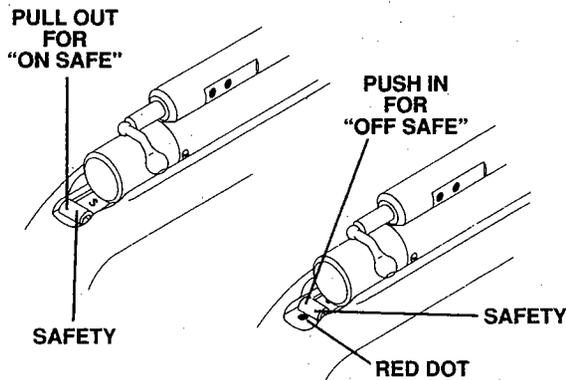

FIG. 2
NOTE: BE SURE THE RIFLE IS "OFF SAFE" BEFORE COCKING (Fig. 2). FAILURE TO FOLLOW THE PROCEDURE LISTED BELOW MAY RESULT IN JAMMING THE FIRING MECHANISM.
- To put the air rifle on safe, pull the safety all the way back with your thumb. The safety is not on unless it is pulled all the way back so the red dot is covered and the "S" is completely visible. (Fig 2)
- To take the air rifle off safe, push the safety all the way forward. When you can see the red dot behind the safety the gun is off safe and ready to be fired. (Fig. 2)